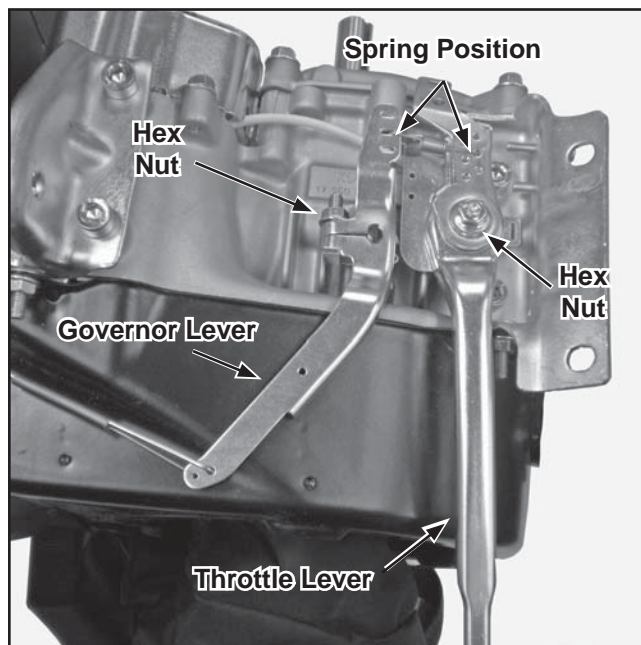

Figure 9-14. Removing CH270 Throttle and Governor Levers.
1. Mark which hole location the governor spring is in on each side. Remove the single hex flange nut and washer securing the throttle control lever to the crankcase. Unhook the spring and remove the lever. See Figures 9-14 or 9-15.
2. Loosen the hex flange nut securing the governor lever to the governor shaft. Lift off the governor lever and remove the carburetor throttle link and dampening spring. See Figures 9-14 or 9-15.